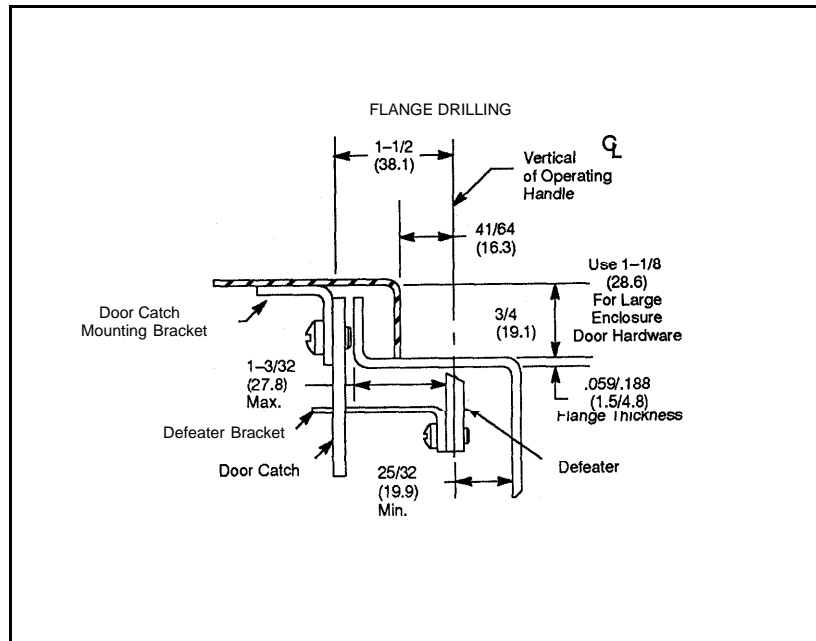
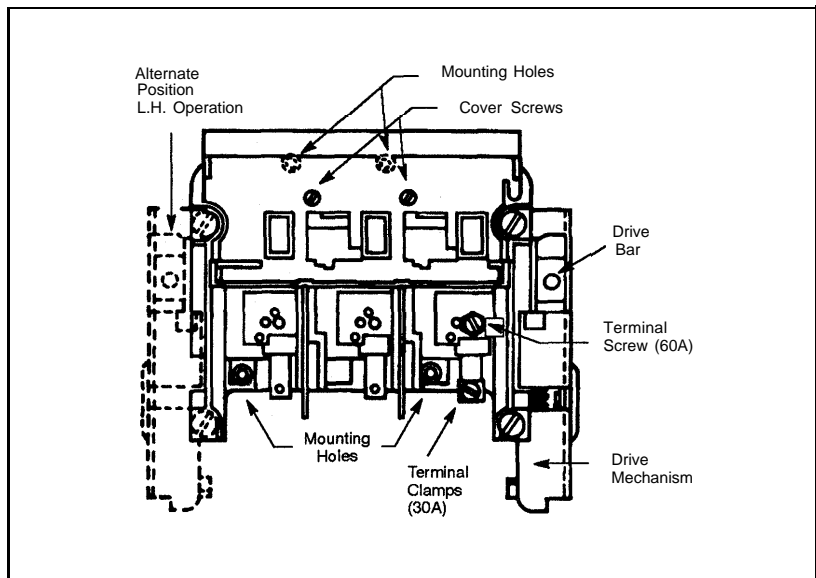
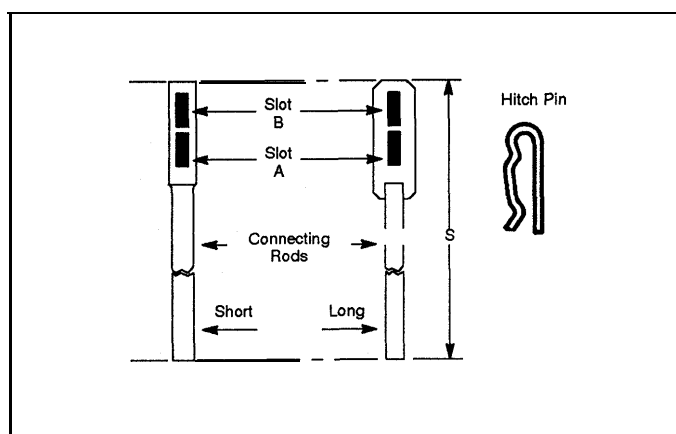
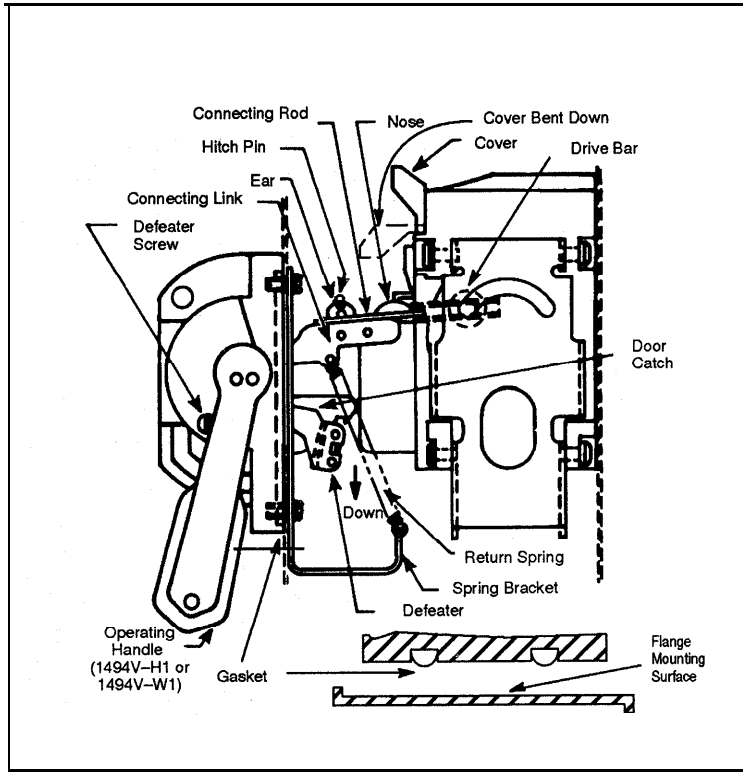

Figure 2
Figure 5
Figure 6
Figure 7
1. Determine the enclosure dimensions required for your application to verify that the enclosure is at least as large as the required minimum values and the flange design is as shown in Figure 2 on Page 3.
5. Provide the flange drilling as required in Figure 3 on Page 4. The spring bracket (shown in Figure 7) provided with Catalog Numbers 1494V-H1 or 1494V-W1 operating handles can be used as a template. Determine the location of holes on the enclosure mounting plate for the disconnect switch and trailer fuse block from Figure 1 on Page 1, and the Dimension Chart on Page 2 and Figure 4 on Page 4.
6. Locate and assemble the door catch mounting bracket as shown in Figure 1 on Page 1 and Figure 2 above unless a door hardware kit (Catalog Numbers: 1494V-L1, 1494V-LL1, 1494V-L2, 1494V-L3 or 1494V-LL3) is used.
1. The drive mechanism (Figure 5) is assembled to the disconnect switch for right hand operation. To convert for left hand operation use the instructions on Pages 10 and 11.
2. Cut the connecting rod, Catalog Numbers 1494V-RA 1 or 1494V-RA2 (Figures 6 and 7) to the correct length using the formula  $S = N - U$ . See Dimension Chart (Figures 6 and 1) on Page 1 for the "N" AND "U" dimensions. Adding a chamfer to the threaded end will provide ease of assembly when assembled to the drive bar.
3. Assemble Catalog Number 1494-H1 or 1494V-W 1 operating handle, gasket and spring bracket (Figure 7) using two 1/4 - 20 x 5/8" (15.9) hex screw assemblies. Torque to 30-40 lb.-in.
**NOTE:** The gasket must be installed in the handle housing groove. See Figure 7.
4. Affix the disconnect switch with four pan head screw assemblies provided. See Figure 5 on Page 5.
**NOTE:** Bend down the line terminal guard (Figure 7) to insert and mount the two upper screws. Tighten the mounting screws to 24-32 lb.-in.
- (1) After cutting to size, turn the connecting rod twelve full turns into the drive bar (Figure 5 on Page 5 and Figure 7).
- (2) Place the operating handle in the "OFF" position.
- (3) Insert the nose and then the ear of the connecting link (Figure 7) through slots **A** and **B** respectively in the connecting rod (Figure 6 on Page 5). If necessary, press the defeater (Figure 7) down and lift the operating handle slightly while the connection is being made.
- (4) Insert the hitch pin (Figure 6 on page 5) in the hole of the ear on the connecting link (Figure 7).
- (1) Turn the connecting rod nine full turns into the drive bar, Figure 5 on Page 5.
- (2) Place the operating handle in the "ON" position.
- (4) Return the operating handle to the "OFF" position. If the disconnect switch does not **OPEN**, return the operating handle to the "ON" position and turn the connecting rod clockwise one full turn at a time until the disconnect switch opens when the operating handle is moved to the "OFF" position.
- (5) Insert the hitch pin (Figure 6 on Page 5) in the hole of the ear on the connecting link (Figure 7).
- a. Move the operating handle to the "ON" position. If the disconnect switch does not **CLOSE** before the operating handle reaches its **FULL "ON"** position, remove the hitch pin and disengage the connecting rod from the connecting link in the "OFF" position. Turn the connecting rod **COUNTER-CLOCKWISE** one-half or one turn. Again follow step 5A (3) or B(3) to make the connection between the connecting rod and connecting link.
- c. Move the operating handle from the "ON" to the "OFF" position. If the disconnect switch does not open before the defeater (Figure 7) starts to move down, remove the hitch pin and disengage the connecting rod from the connecting link, in the "OFF" position, and turn the connecting rod **CLOCKWISE** one-half or one turn. Reassemble the connecting rod to the connecting link following steps A(3) and B(3).
7. Attach the handle return spring (Figure 7 on Page 6) as shown. Be sure the hitch pin (Figure 6 on Page 5) is in place.
8. Assemble the defeater bracket as shown in Figure 2 on Page 3 for right hand operation using two 6-32 X 5/16" (7.9) pan head screw assemblies. Torque to 6-8 lb.-in. Mount the defeater bracket on the opposite side of the defeater for left hand operation.
9. Fasten the door catch as shown in Figure 2 on Page 3 and Figure 7 on Page 6, to the door catch mounting bracket with two lock washers and two 10-32 X 1/4" (6.4) screws provided. Torque to 25-30 lb.-in.
- b. Close the door tightly and if adjustment is correct, move the operating handle to the "ON" position. Try to open the door with the operating handle in the "ON" position. The door catch must engage the defeater bracket and prevent the door from opening fully until the defeater screw (Figure 7 on Page 6) is turned. Readjust the door catch further down if required.
12. Bend down the line terminal guard (Figure 7 on Page 6) to aid in wiring the line terminals. For easy access to the line lug mounting screws on the 60 ampere switch, loosen the two cover screws (Figure 5 on Page 5) and bend the cover down by way of the second hinge.